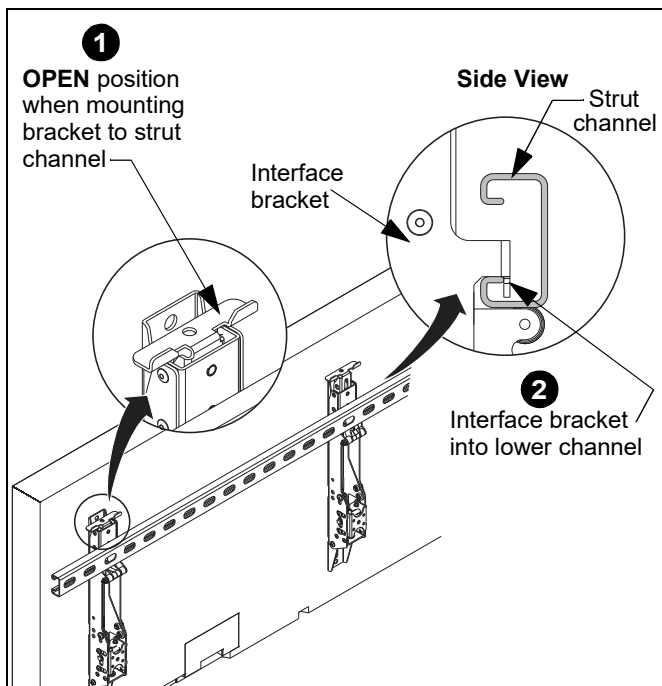

Figure 7
1. Ensure that the latch mechanisms on interface brackets (H) are already in the OPEN position.
2. While supporting both sides of display, lower display onto strut channel hooking top of interface brackets into lower channel of strut channel. (See Figure 7)